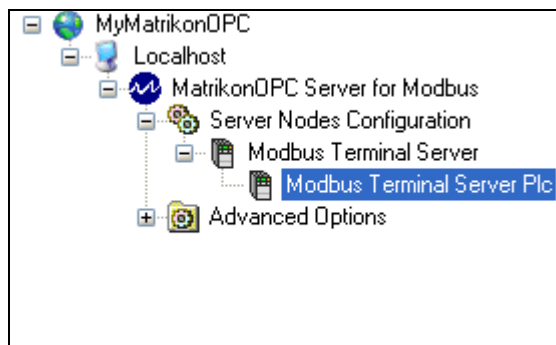

Figure 15 - New Modbus Terminal Server PLC Object
- Click on the **Create** button. The new item is created and appears as a child of the **Modbus Terminal Server** node in the navigation pane as shown in Figure 15.